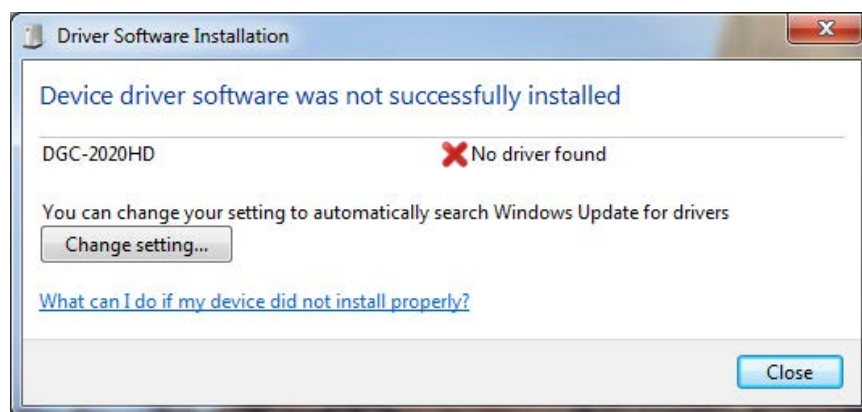

Figure 81. Driver Software Installation
- Step 1. If the message in Figure 81 is shown, close all programs and restart the computer.